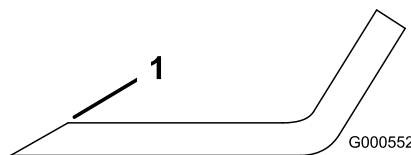

Figure 50
1. Use a file to sharpen the cutting edge at both ends of the blade (Figure 50).
Note: If the blade is not balanced, file some metal off only the end of the sail area (Figure 50).